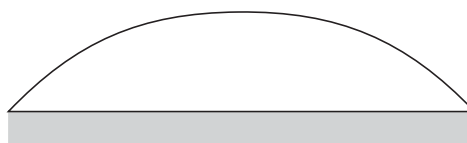

Figure 2 Water on top of the coin
3. The water forms a curved or bulging shape on the top of the coin as shown in Figure 2.